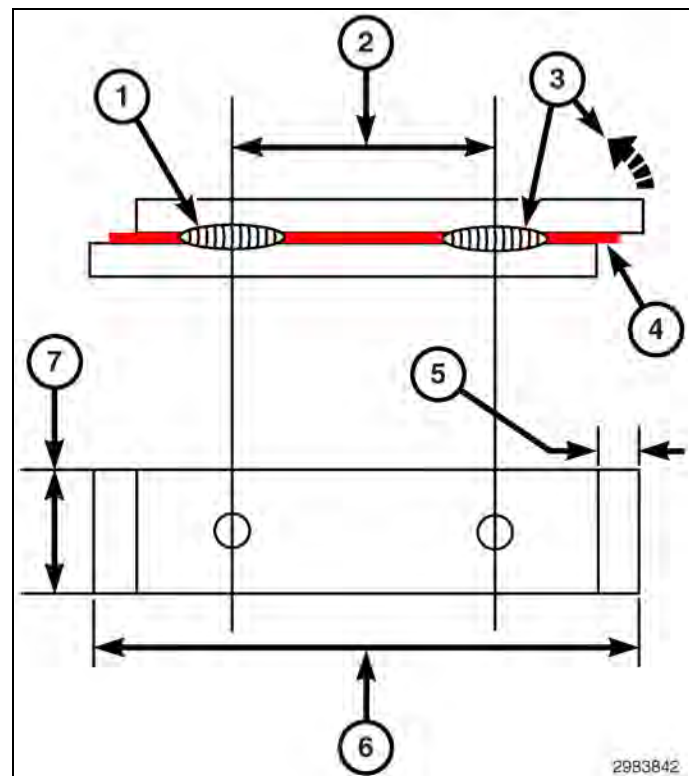

Fig. 11 Weld Coupon
3. Using the procedure outlined, (Fig. 11), prepare the test coupons.
8. As shown in (Fig. 11), place first weld at a position at least 12.5mm. (0.5 in.) away from end weld coupons. Then make the second weld. The weld spacing should be the same distance as the original welds or the closest existing weld, whichever is the least on the vehicle being repaired.